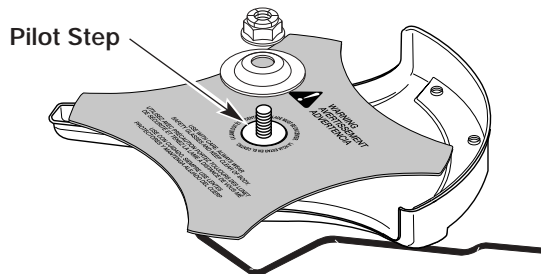

Figure 12
5. Make sure that the cutting blade is centered on the pilot step and sitting flat against the output shaft bushing. See Figure 12.